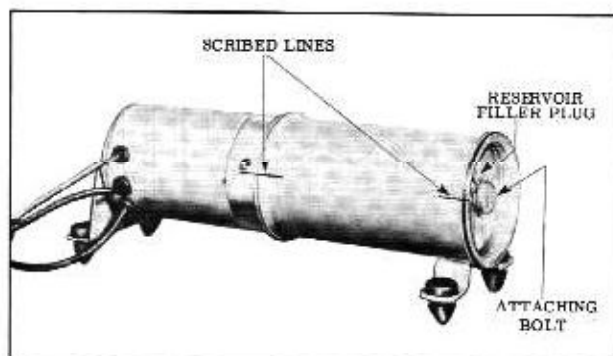

Fig. 17-150 Alignment Marks
2. Scribe a line across pump end plate, reservoir tube and reservoir tube end plate (Fig. 17-150) to insure correct assembly of parts.